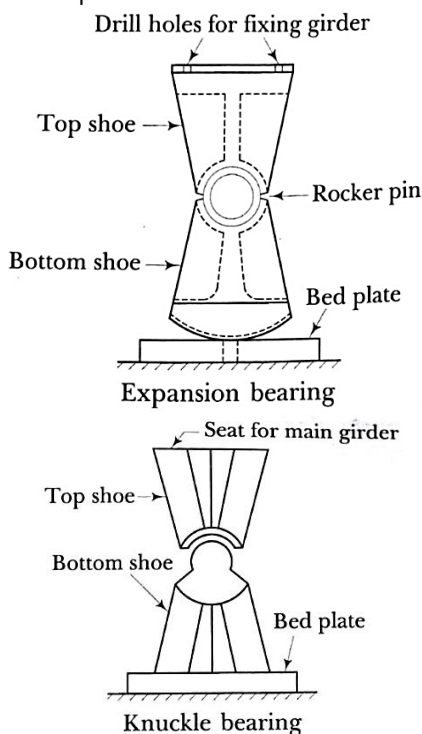

Fig.54 Expansion & Knuckle Bearing
- Fig. 54 (a) shows an expansion bearing. It allows free angular as well as longitudinal movement of the girder and it is useful for girders having small spans
- In case of knuckle bearing, the top of bottom shoe and bottom of top shoe are given semi-circular shapes as shown in fig 54 (b).